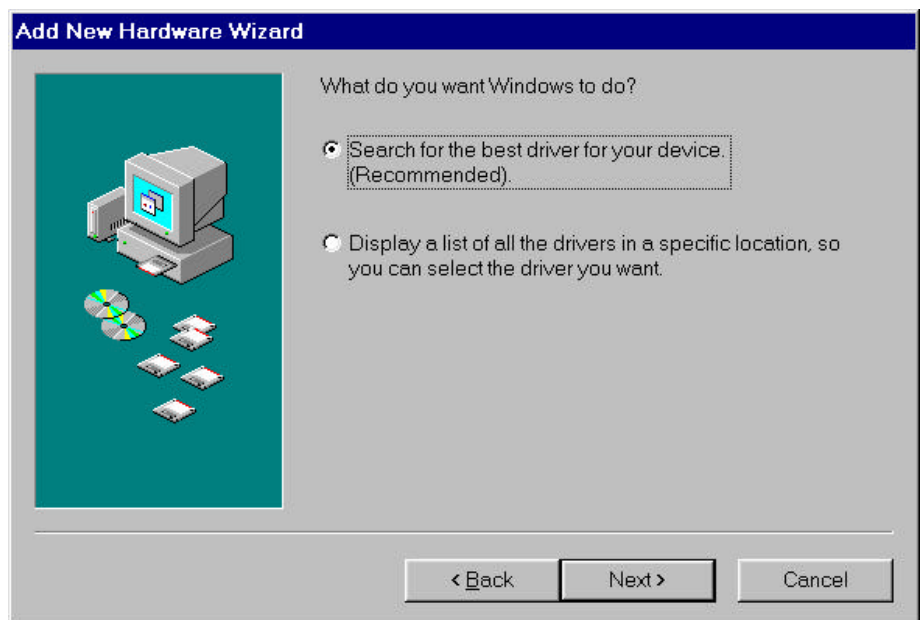

Figure 2. Add New Hardware Wizard
3. Select Search for the best driver for your device as shown in figure 2. Click Next.